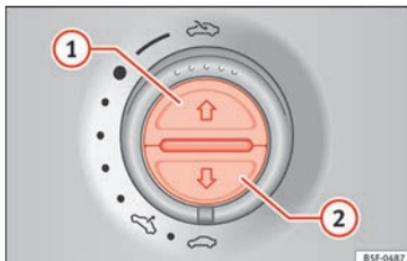

Fig. 139 On the interior roof lining: switches for the sun blind
To open completely (automatic):	Press button »» Fig. 139 ① briefly.
To stop automatic operation:	Briefly press the button »» Fig. 139 ① o »» Fig. 139 ②.
To set the intermediate position:	Hold the button »» Fig. 139 ① or »» Fig. 139 ② until the required position is reached.
To close completely (automatic):	Press button »» Fig. 139 ② briefly.
- *Sun blind:* Within 5 seconds of triggering the anti-trap function, push button »» Fig. 139 ② until the sun blind closes completely.